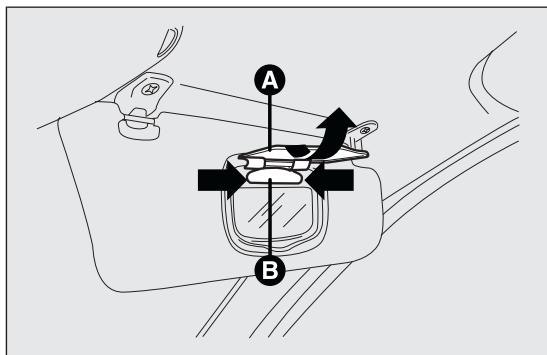

fig. 183
- open the mirror cover A fig. 183;